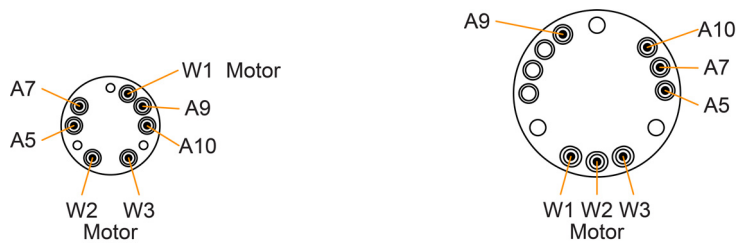

Figure 16 ENX 13 (left) / 16...22 (right) EASY INT Absolute – Pins
- Absolute encoder and motor with pins (→Figure 16)